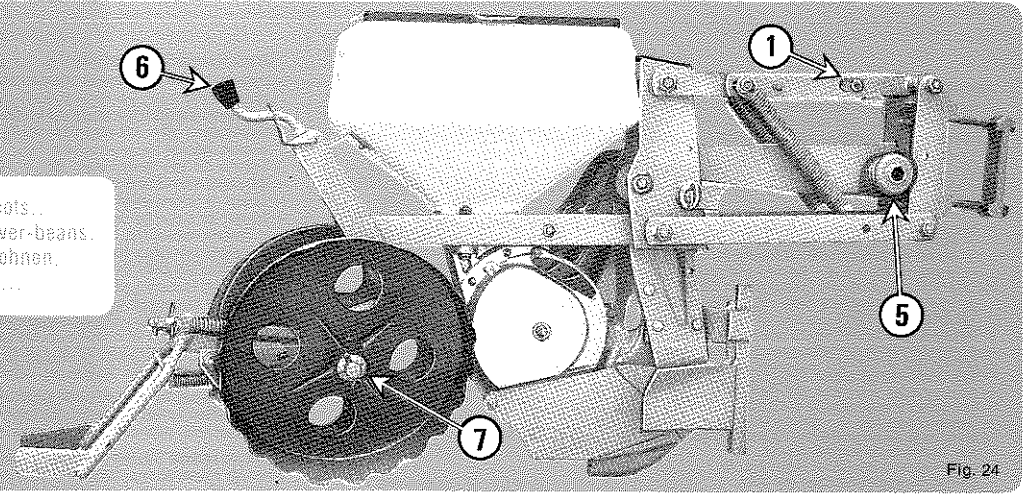

Fig. 24
VERSION de base A type MAÏS (fig. 24)
BASIC VERSION « A » : CORN-MODEL (fig. 24)
• on the corn version (fig. 24 - 27 - 28) this pin remains in position (normally articulated parallelogram)
— fitted diagonally as on fig. 24, they stabilize the metering units in both directions.
Grundausführung A Typ MAIS (Abb. 24)